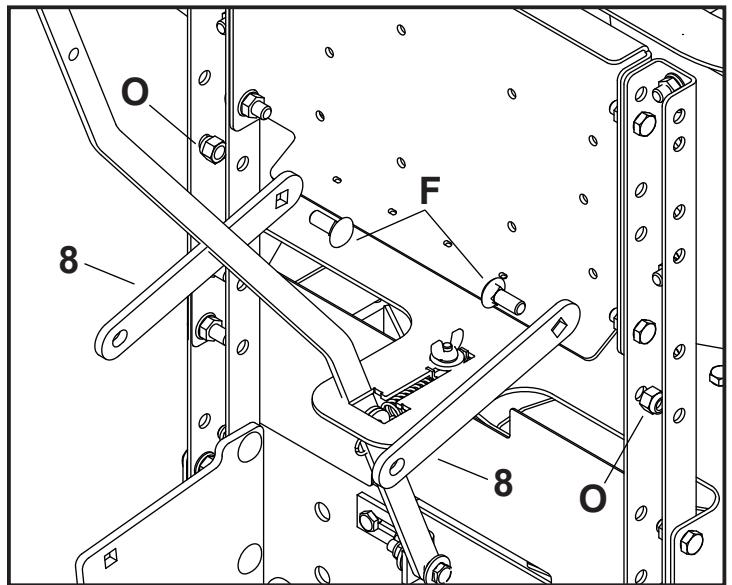

FIGURE 8
STEP 8: (SEE FIGURE 8)
- Orientate a 3 point hitch brace (8) with the side with square hole towards the spreader and on the inside of the channel. (Will use the 6th hole down on the channel.)
- Install a 3/8" x 1" carriage bolt (F) through the brace (8) and channel.
- Secure with two 3/8" nylock nuts (O) in the channel. Do not fully tighten hardware.